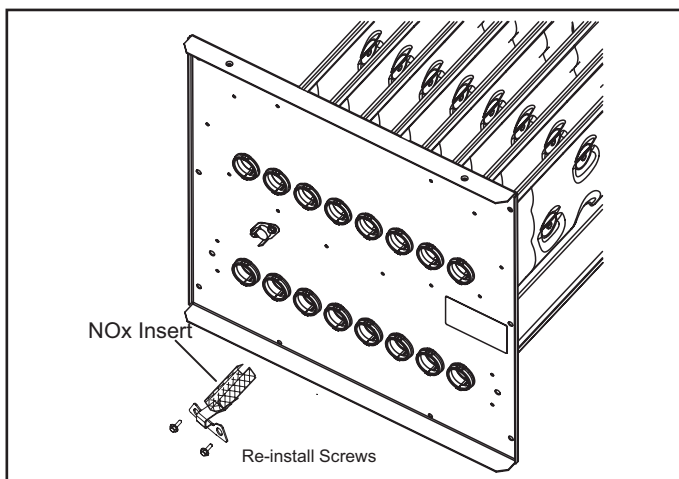

Figure 1. NOx Inserts
- b. Remove the screw which secures each of the NOx inserts to the clamshell. Remove the NOx inserts and reinstall the screw. See Figure 1.